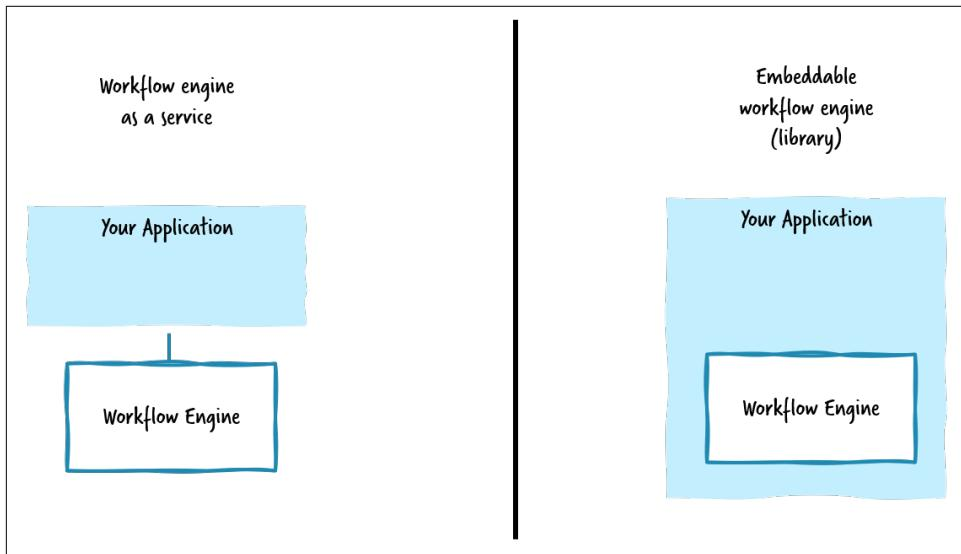

Figure 2-2. Typical architectures of a business application using a workflow engine
There are two basic options to run the workflow engine itself, visualized in Figure 2-2:
- The workflow engine is deployed as a service, meaning it is a self-contained application that is separate from your business application. This means that your business application talks remotely to the workflow engine (left-hand part of Figure 2-2).
- Some engines allow to be operated as library and thus run as part of your own application (right-hand part of Figure 2-2).